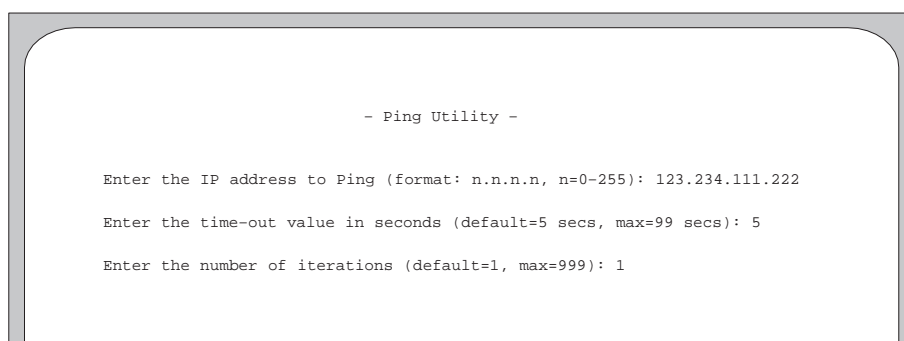

Figure 5-27. Example of Completed Ping Utility Screen.
3. Select the Ping utility. The Ping Utility screen appears, with only the ***Enter the IP address to Ping (format: n.n.n.n, n=0–255):*** field displayed. Figure 5-27 is an example of the Ping Utility screen, with all fields completed.